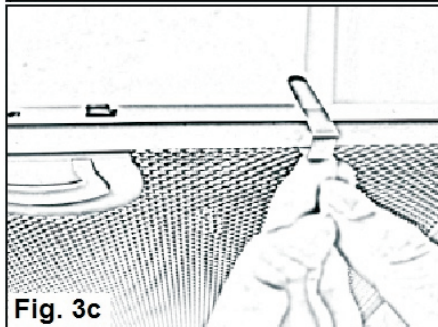

Fig. 3c
- e. Clips will click when the charcoal filter is secured. (Fig. 3c)